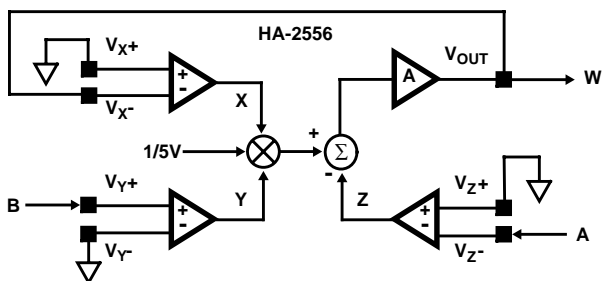

FIGURE 3. DIVIDER
Notice that the output (W) enters the equation in the feedback to the Z stage. The Balance Equation does not test for stability, so remember that you must provide negative feedback. In the multiplier configuration, the feedback path is connected to Vz+ input, not Vz-. This is due to the inversion that takes place at the summing node just prior to the output amplifier. Feedback is not restricted to the Z stage, other feedback paths are possible as in the Divider Configuration shown in Figure 3.